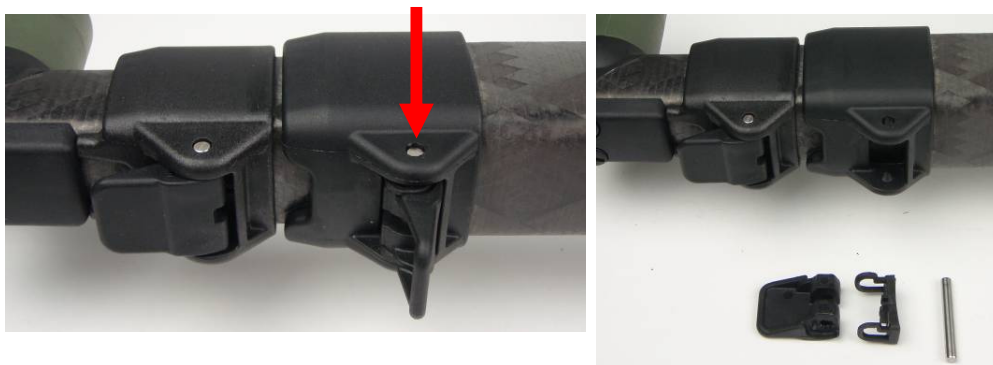

Figure 72: Removing Camlock Pin
- Open the camlock lever and using a pin punch and hammer drive the camlock pin out. Figure 72.